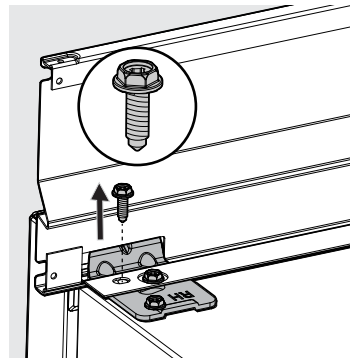
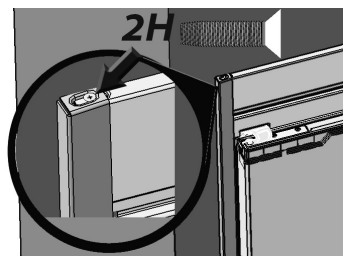

Fig. 21
Fig. 24
- 22. a. Remove the front outer hinge screws, common on both sides of the dual installation, as well as the front two 4H screws that fasten the 1H Tie Bar (Fig. 21).
- 24. a. Place side trims in position by dropping them over the placement screw as seen in Fig. 21 and fitting over the top trim (Fig. 24).